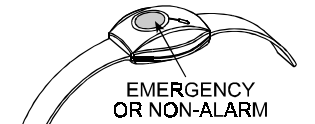

Figure 24. MCT-211
F. MCT-211 (see Fig. 24) This is a waterproof, wrist-worn PowerCode transmitter, that can be enrolled to perform emergency or non-alarm function.